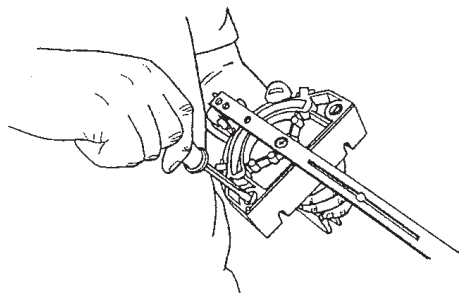

Figure C-49
- b. Use a medium screwdriver to screw the glides in or out, as shown in Figure C-49, so that the glides hold the miter gauge $1/64''$ to $1/32''$ off the worktable and the miter gauge does not rock in the slots.